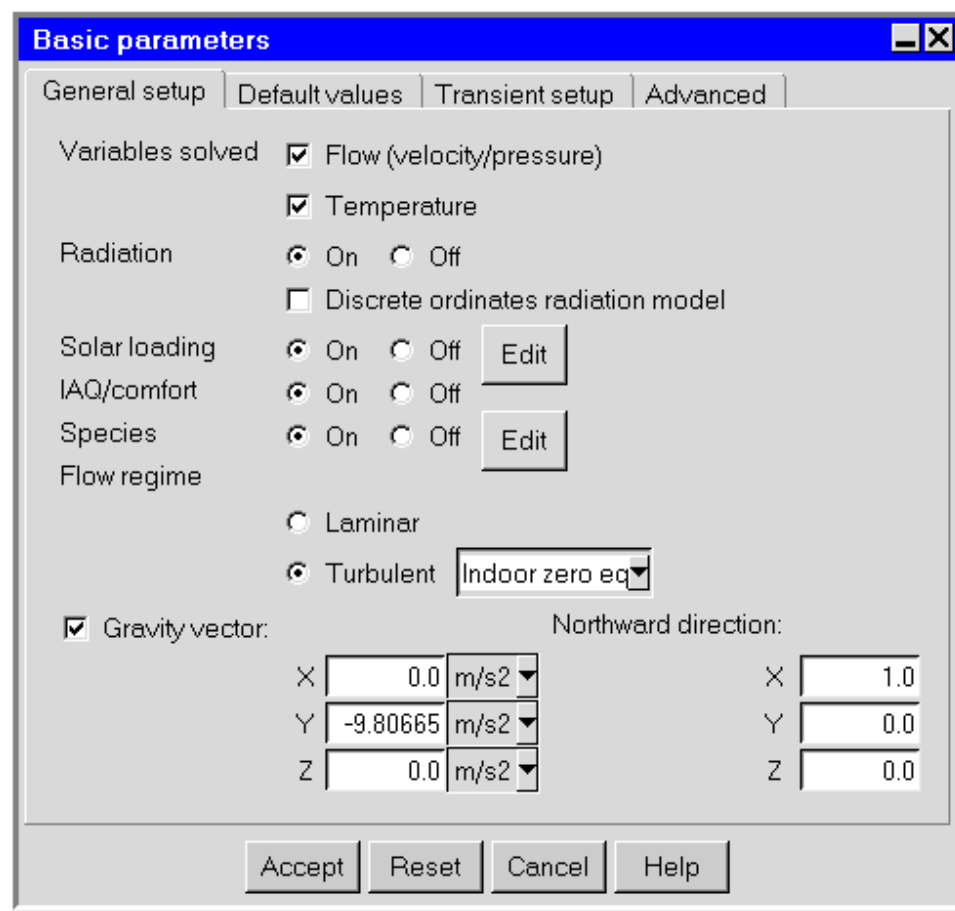

Figure 21.2.1: The Basic parameters Panel (General setup Tab)
1. Enable the calculation of species transport in the Basic parameters panel. To open the Basic parameters panel (Figure 21.2.1), double-click on the Basic parameters item under the Problem setup node in the Model manager window.